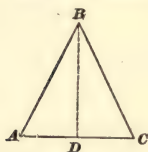

FIG. 30.
60. The altitude of any triangle is a line, as BD , drawn from the vertex B of the angle opposite the base AC , perpendicular to the base, as in Fig. 30, or